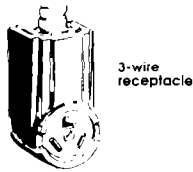

Figure 3
5. If you must change to a three-wire, single phase, 120/240-volt, 60-Hz, AC only, electrical supply system, and local codes permit, a U.L.-listed, 120/240-volt minimum, 30-ampere, dryer power supply cord kit with a receptacle of NEMA Type 10-30R may be used. (See Figure 3.) This cord must contain three, No.-10 copper conductors with ring terminals or spade terminals with upturned ends on the washer/dryer end. Where local codes permit, it must be plugged into a mating 30-amp receptacle (NEMA type 10-30R). Cord should be Type SRD or SRDT and be at least four feet long. The three-wire power supply cord is not provided with the washer/dryer. A kit, Part No. 687104, is available from your Whirlpool dealer.